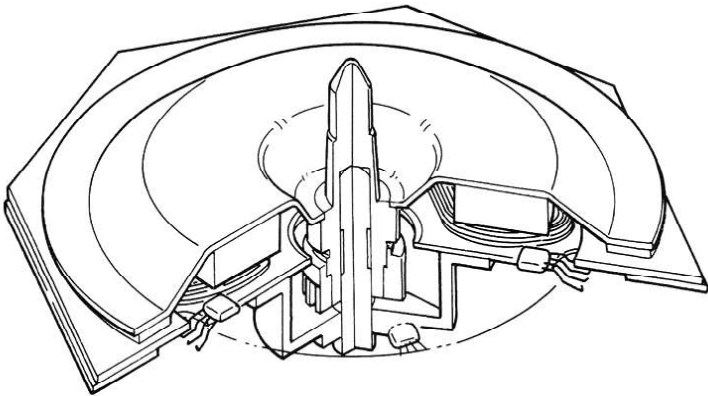

Fig. 7-1
5. As can be seen in Fig. 7-1, the rotor magnet generates an 8 polar trapezoidal magnetic wave, and by phase additions of the coil switching waveforms a even torque is obtained.